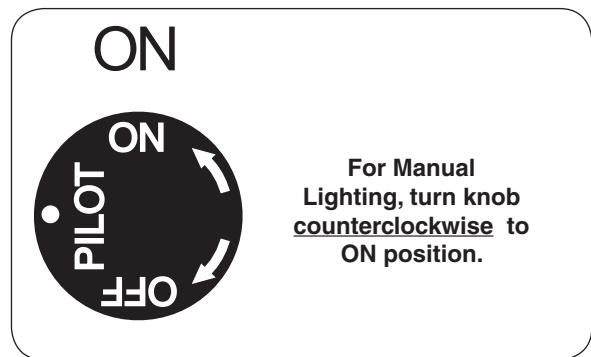

Fig. 27-3 Control knob detail (ON)
- Turn the gas control knob counterclockwise to **ON** (Fig. 27-3) to ignite the burner. The valve will open and the burner will light.